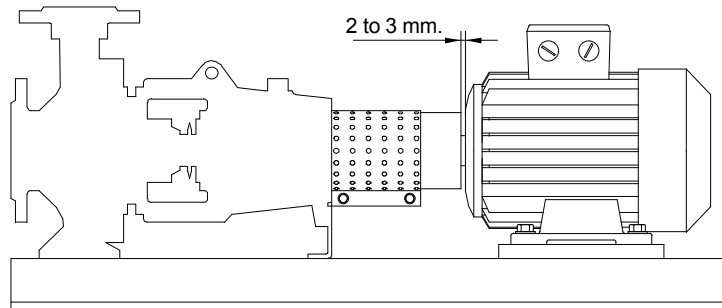

Fig. 23
- 11 - Install the coupling guard and its extension (if applicable) on the pump, secure the two locking bolts. The gap between motor and guard should not be greater than 2 to 3 mm. (see fig. 23).